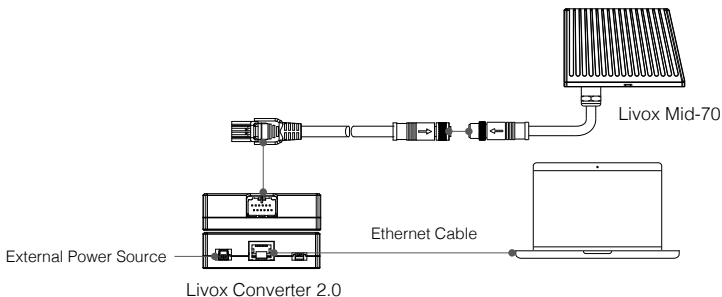

Figure 4.2.1 Connecting using static IP address
2. Connect the Mid-70, Livox Converter 2.0, external power source, and computer by following Figure 4.2.1.
1. Follow Figure 4.2.1 to connect the Mid-70, conversion cable, Livox Converter 2.0, external power source, and computer.